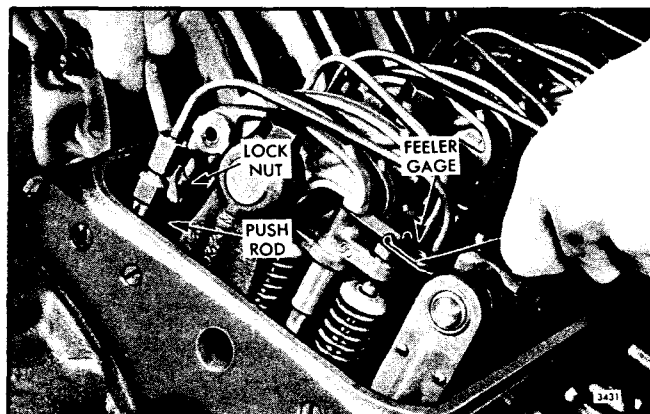

Fig. 3 - Adjusting Valve Clearance
5. Place a .017" feeler gage, J 9708, between the valve bridge and the valve rocker arm pallet (Fig. 3). Adjust